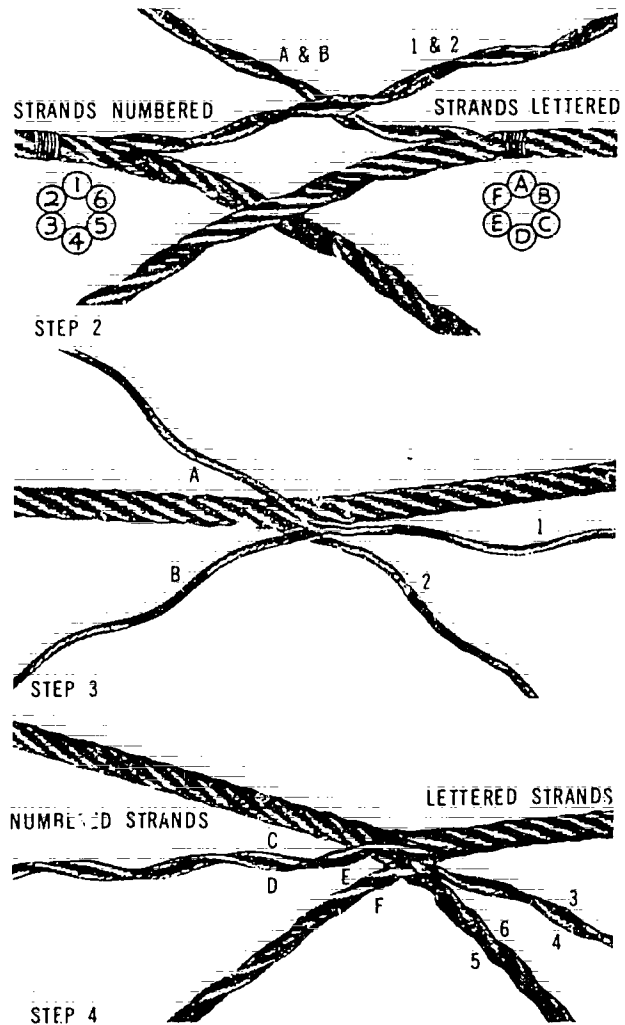

Figure 7-51. Splicing Wire Rope
- Step 2. Unlay two strands from each piece to the marks and interlay the pairs as shown in Figure 7-51. Pull the ropes together snugly at the marry.
place. Then take Strand 1 and unlay it further back to the 25' mark and lay Strand A in its place (Figure 7-51).
Step 4 Unlay Strands C and D back to the 15' mark (in the opposite rope) and lay Strands 3 and 4 in their place. Then take Strand C and unlay it further back to the 25' mark and lay Strand 3 in its place (Figure 7-51).